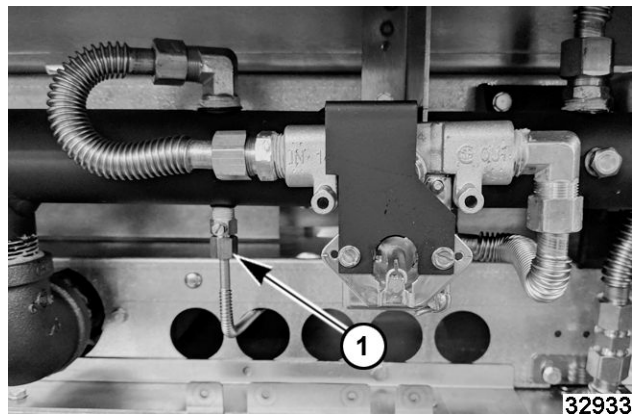

Fig. 114
3. Disconnect pilot flex tube (1, Fig. 114).